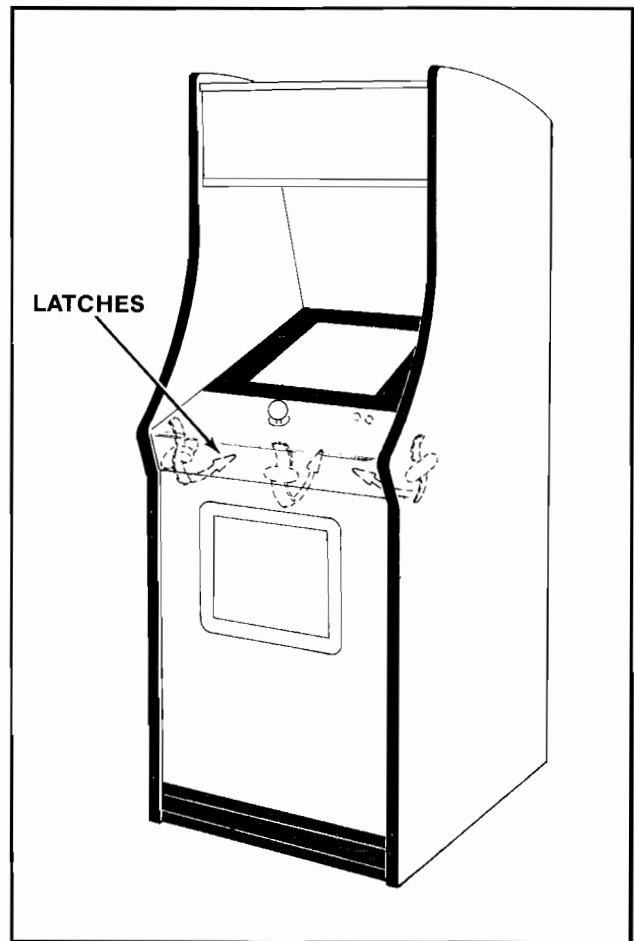

Figure 4-2 Opening the Control Panel — Upright
**OPENING THE CONTROL PANEL** See Figure 4-2.
**1. UPRIGHT MODEL:** See Figure 4-2.